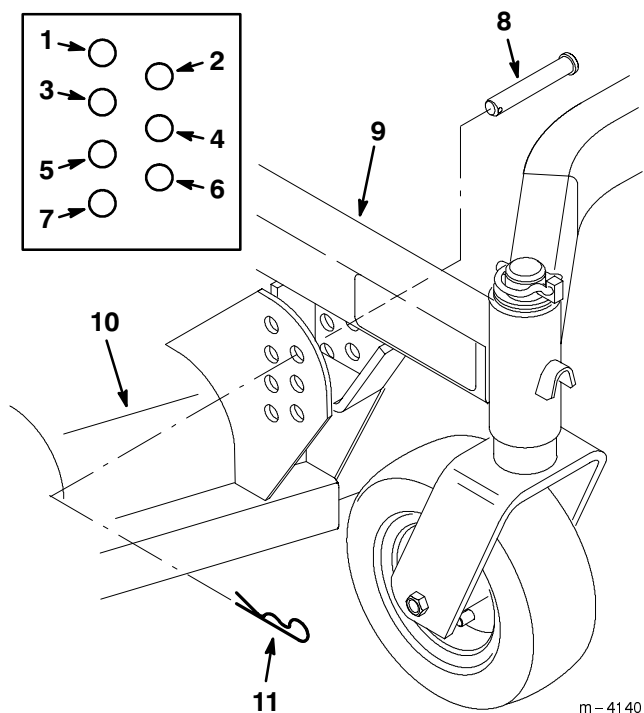

Figure 6
2. Mount the cutting deck to the carrier frame with four (4) clevis pins and hairpin cotters (Fig. 6).